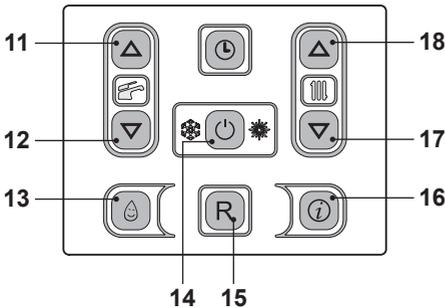
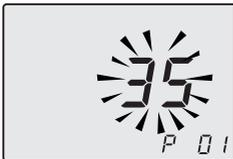

Fig. 7.49
Fig. 7.50
- Enter the "programming mode" by pressing keys 14 - 17 - 18 (Fig. 7.49) for 10 seconds at the same time until the letters **P01** are displayed on the LCD display and the value of the parameter (35=Inovia 25C ERP, 36=Inovia 30C ERP or 37=Inovia 35C ERP), indicating that "parameter 01" (Fig. 7.50) has been activated.
- Press keys 17 or 18 (Fig. 7.49) to exit without changing the value.